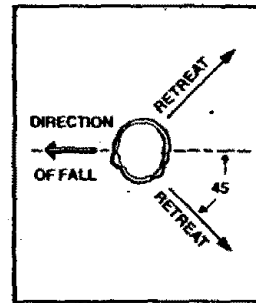

Figure 28
- Plan a clear retreat path** to the rear at diagonal to the line of fall. Figure 28.